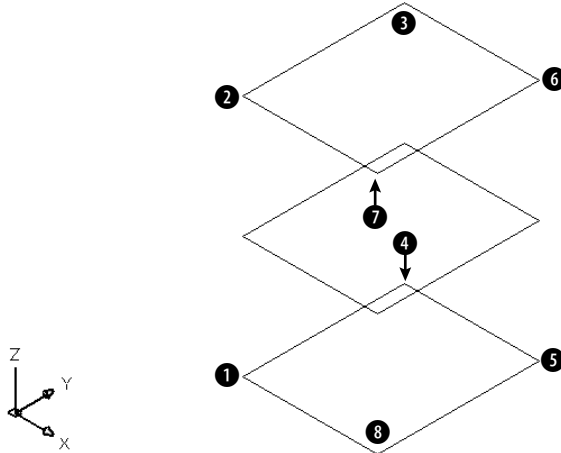

Figure 23-4: The three 3D faces from an isometric viewpoint.
5. Choose View ⇨ 3D Views ⇨ SE Isometric. Your drawing should look like Figure 23-4. You now have the top, bottom, and middle shelves of the cabinet.
Specify first point or [Invisible]: Pick the endpoint at ① in Figure 23-4.
7. To draw the door of the cabinet, change the current layer to CONST. Start the LINE command and draw a line from ② in Figure 23-4 to @18<225. End the LINE command. Now start the COPY command and copy the line from ② to ①. These two construction lines frame the door.
Specify point on positive portion of X-axis <-0'-5 3/4",-0'-6 3/4",0'-0">: Pick ① in Figure 23-4.